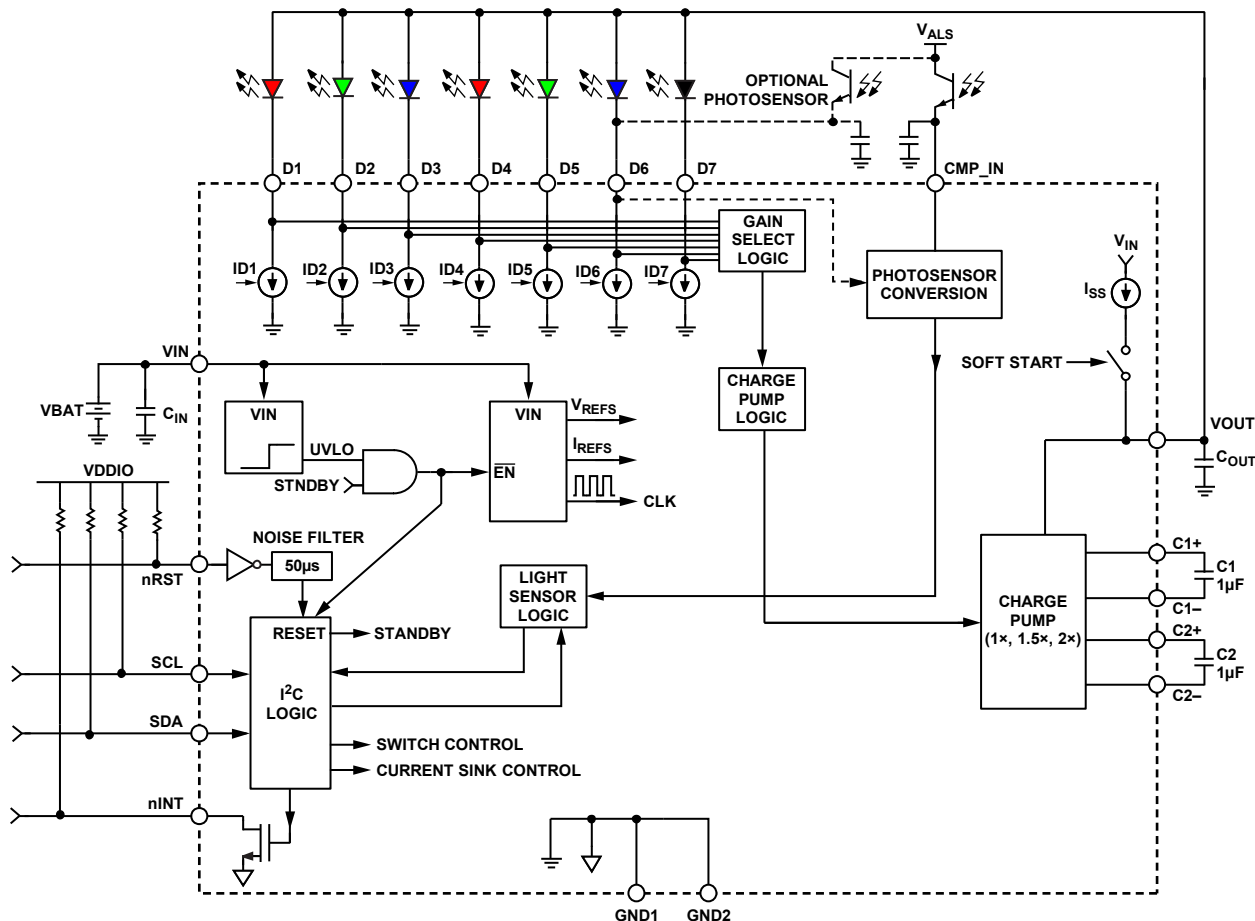

Figure 25. Detailed Block Diagram
By charging the capacitors in different configurations, the charge, and therefore the gain, can be optimized to deliver the voltage required to power the LEDs. Because a fixed charging and discharging combination must be used, only certain multiples of gain are available. The ADP8863 is capable of automatically optimizing the gain (G) from 1×, 1.5×, and 2×. These gains are accomplished with two capacitors (labeled C1 and C2 in Figure 25) and an internal switching network.